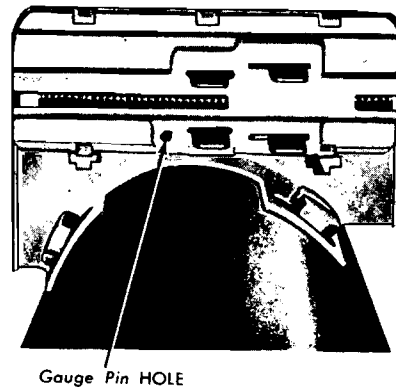

FIG. 23—Typical Starter Neutral Switch-Column Shift
2. To adjust the switch, loosen the retaining screws that locate the switch on the steering column (Fig. 23).
4. Rotate the switch actuating lever until the gauge pin (No. 43 drill) can be inserted into the gauge pin holes (Fig. 23).
4. With the transmission selector lever in neutral, rotate the switch and install gauge pin (No. 43 drill) into the gauge pin hole (Fig. 23).